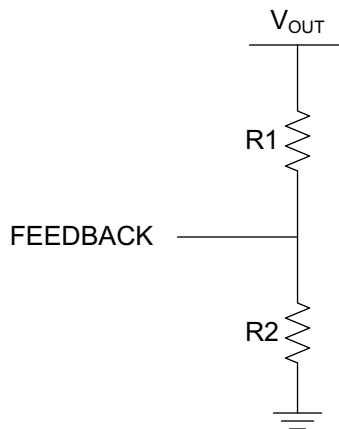

Figure 6-2. Adjusting the Feedback on the LP2951-Q1
- $V_{REF} = 1.235\text{ V}$ applied across R2 (see Figure 6-2)